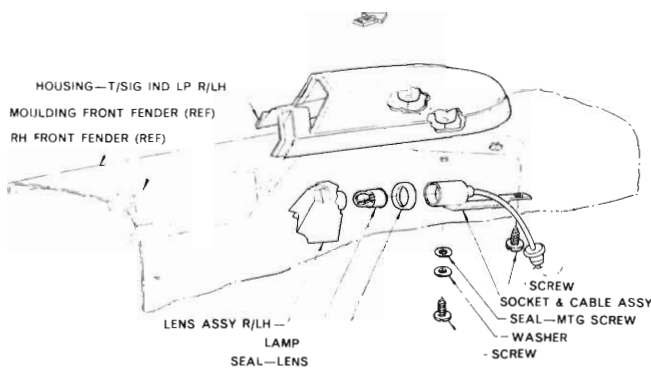

Fig. 11 - Chrysler turn signal indicator lamp (disassembled view)
- (1) From under front fender remove the two screws securing the headlamps splash shield to the front fender.
- (2) Remove the one screw attaching the lamp assembly to the front fender.
- (3) Remove the front fender moulding retaining nut (at centre of moulding) and carefully remove moulding.
- (4) Lift lamp assembly away from locating boss, and remove the screw attaching the socket and cable assembly to the lamp housing and remove the bulb (refer Fig. 11).